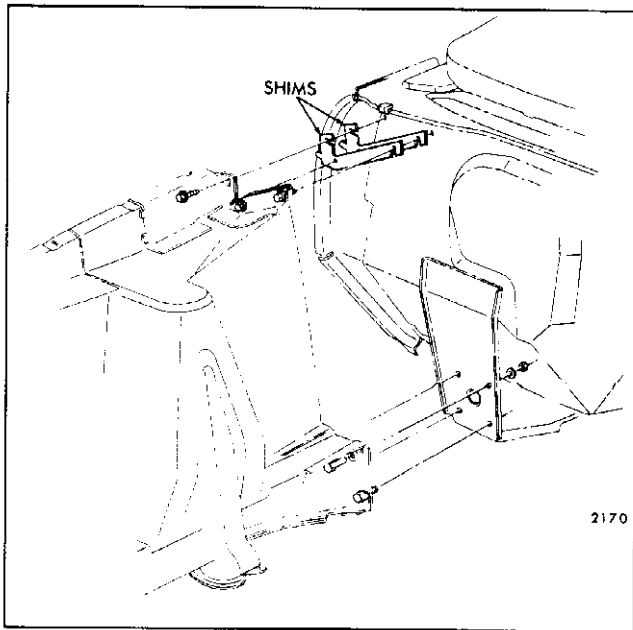

Fig. 3-6—Skirt-to-Dash Mounting
**NOTE:** Minor misalignment of the front end assembly to the body may be corrected by adding or removing shims at the upper skirt-to-dash attaching surface. Figure 3-6 shows both upper and lower attachment and the installed position of the shims. Shims are available in 1/32" and 1/8" thickness.